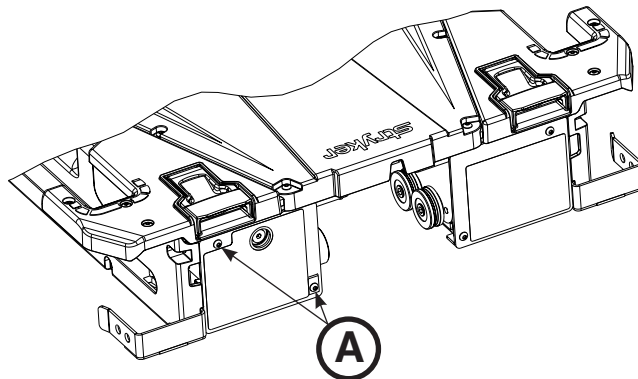

Figure 1
5. Using a T25 Torx driver, remove the two screws (A) that secure the cover to the left wing assembly to gain access to the USB port (Figure 1). Save the screws and cover for reinstallation.